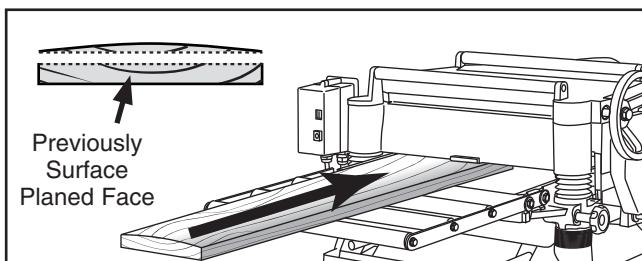

Figure 42. Surface planing on a thickness planer.
2. **Surface Plane on a Thickness Planer:** The opposite face of the workpiece is surface planed flat with a thickness planer (see **Figure 42**).